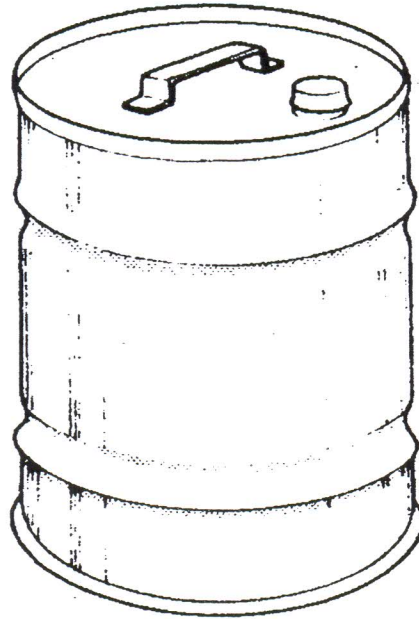

Figure 1: Drum
- (d) According to Figure 1 (drum), identify and explain briefly the type of stiffener that is applied on the body of the drum